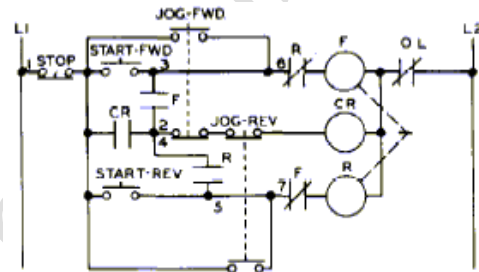

Fig. 26 Jogging with Control Relay for Reverse Starter.
14. Jogging: Control Relay for Reverse Starter (Fig.26)